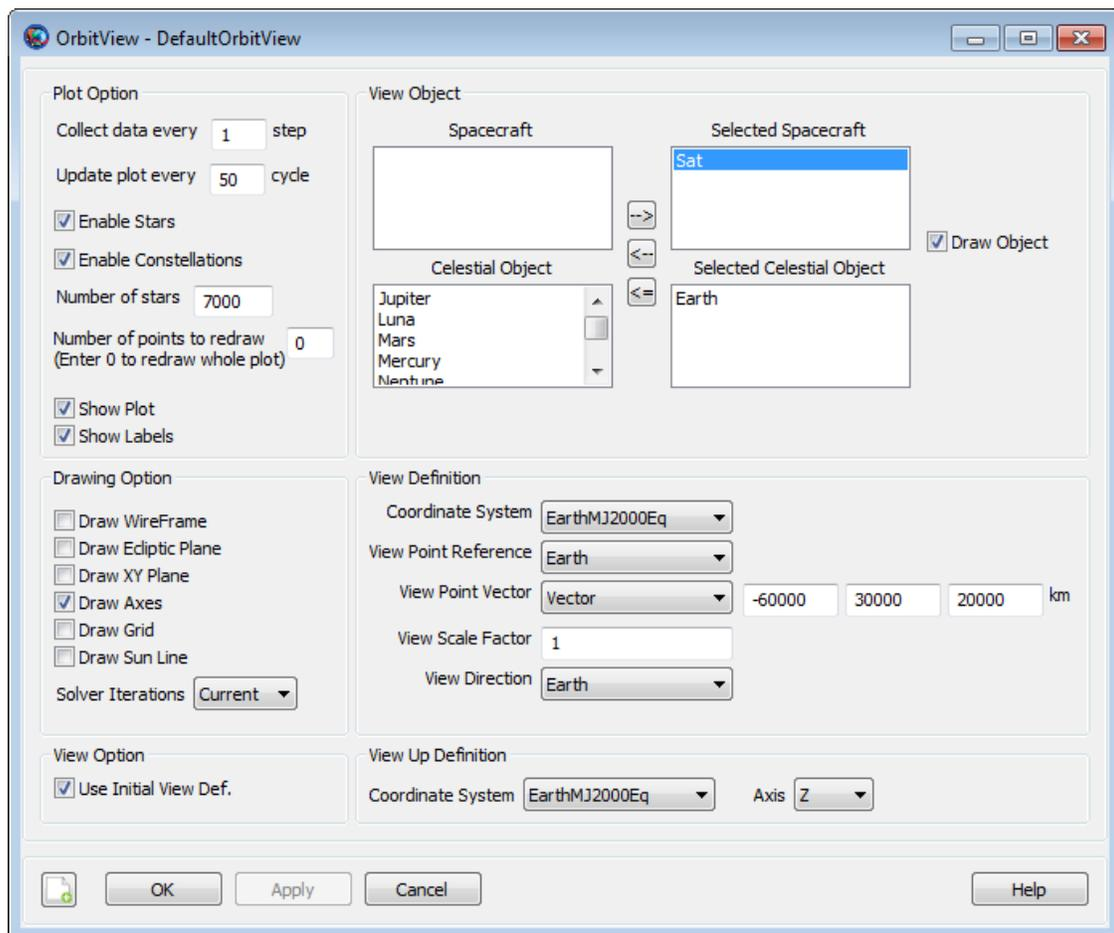

Figure 14. DefaultOrbitView Configuration
3. Under **Drawing Option** to the left, clear **Draw XY Plane**. Your screen should now match Figure 14.